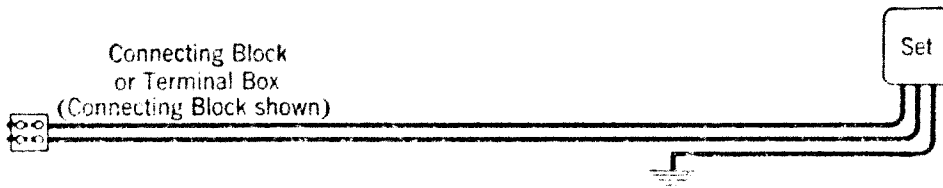

Fig. 6.
5.09 If ground is nearer set than connecting block, use a two-post connecting block. Use pair wire from set to block and single wire from set to ground connection as shown in Fig. 6.